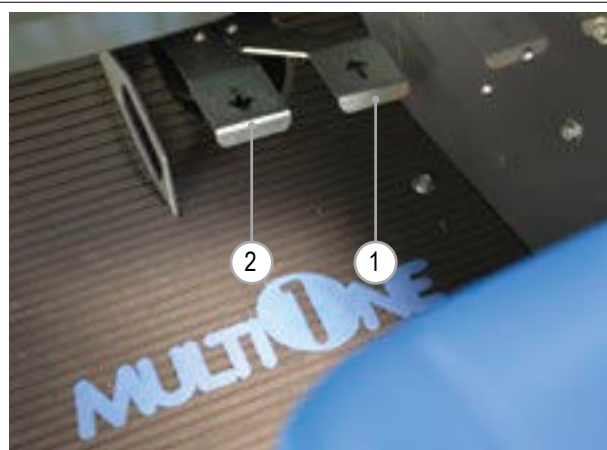

FIG. 27
- 4) Tryk pedalen i retningen "Fremad" (FIG. 27 - Ref. 1) eller "Bagud" (FIG. 27 - Ref. 2).